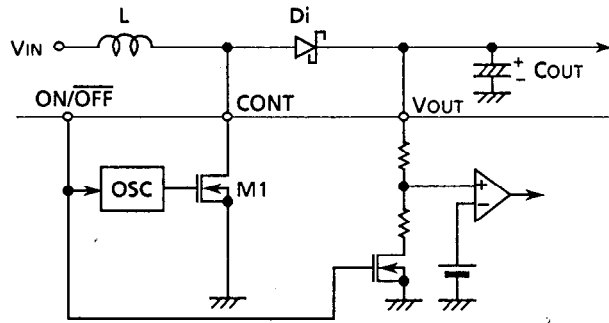

Figure 7
The following are basic equations [(1) through (7)] of the step-up switching regulator (see Figure 7).